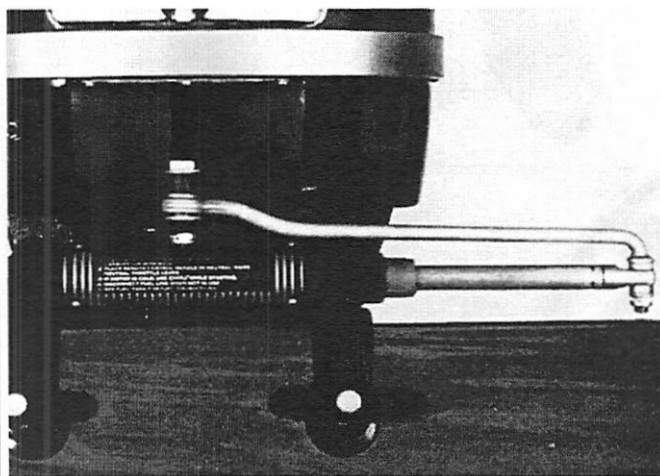

Figure 2. Attaching Kit Installed
1. Install attaching kit on steering arm as shown in Figure 2.